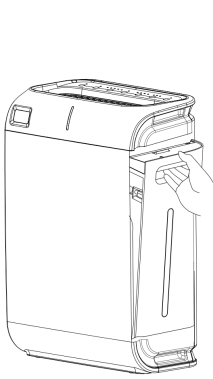

Fig 14
1. Insert fingers into the handle of water tank, press the active button and lift out the water tank. (Fig 14)